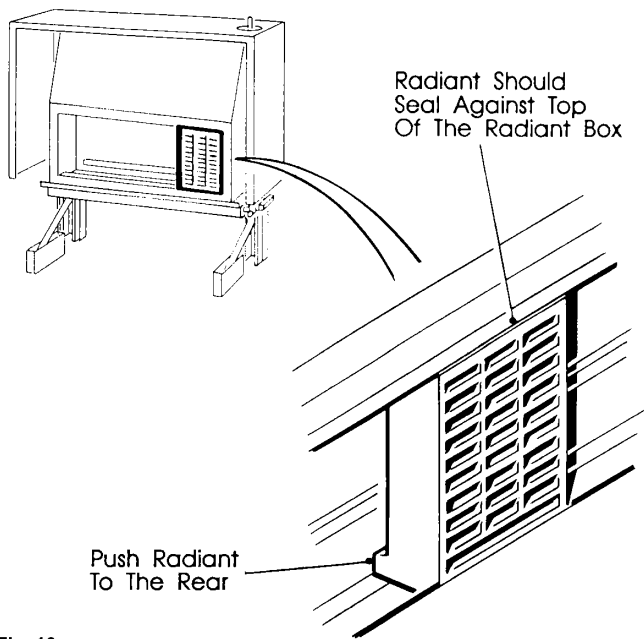

Fig. 16
- Carefully unpack the radiants. Insert the radiants under the canopy, lift the bottom edge over the flange of the radiant support plate and slide the radiant down behind the rib of the radiant support. See Fig. 16.
- e) The Radiants can be replaced if necessary. Demonstrate the removal of the dressguard and the replacement of the Radiants. See Fig.16.